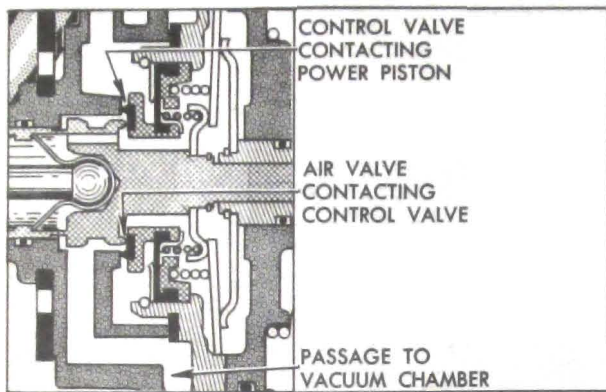

Figure 9-15—Valves at Poised Stage
(4) *Poised Stage.* When the desired brake apply pressure is reached and brake pedal is held poised, the power piston continues rearward momentarily until it contacts the floating control valve. See figure 9-15. At this point, the air valve is also in contact with the control valve so that the passages to the *vacuum* chamber are sealed off from atmospheric pressure as well as vacuum; therefore the power piston remains stationary or poised, ready to move in either direction as dictated by brake pedal movement.